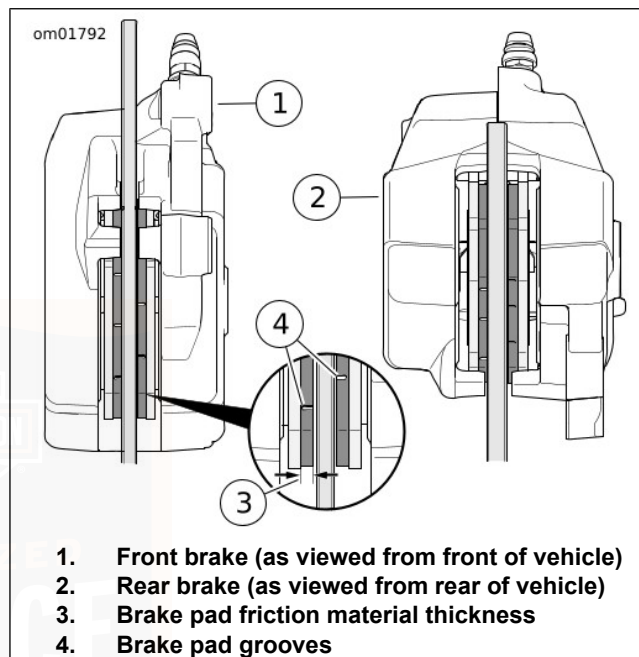

Figure 95. Brake Pad Friction Material
1. See Figure 95. Check the brake disc as it spins. The disc should run true in the brake caliper.